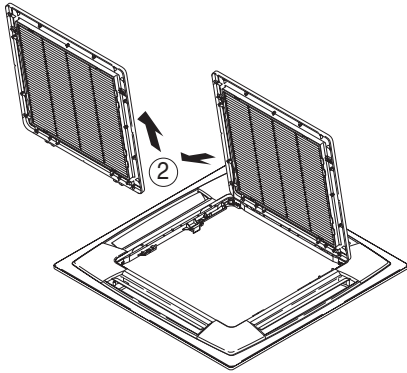

Fig. 7-2
- 3) With the air-intake grille opened, remove the grille hinge from the ceiling panel by sliding it in the direction shown by the arrow ②. (Fig. 7-2) (Reattach the air-intake grille after installation of the ceiling panel.)